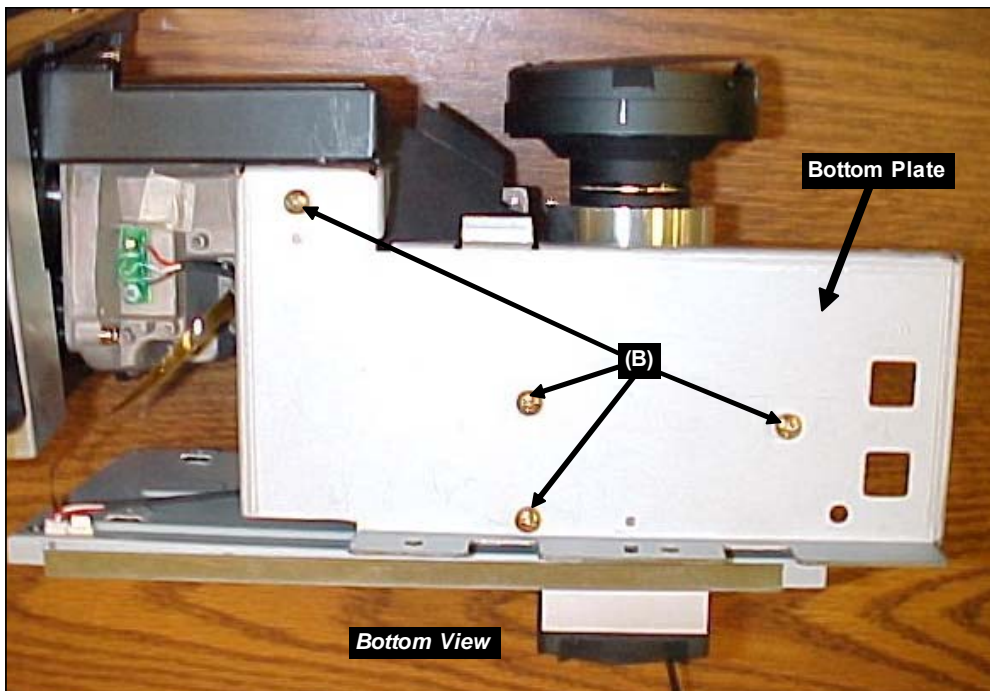

Figure 2: Bottom Plate
- 1) Remove the 4 screws (B) from the Bottom Plate (*Figure 2*)